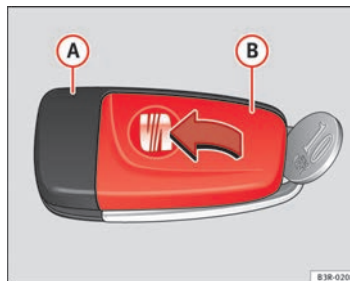

Fig. 69 Master key: Opening the cover
- **Carefully** prise apart the key ⇒ Fig. 69 (A) and the cover (B) using a coin.